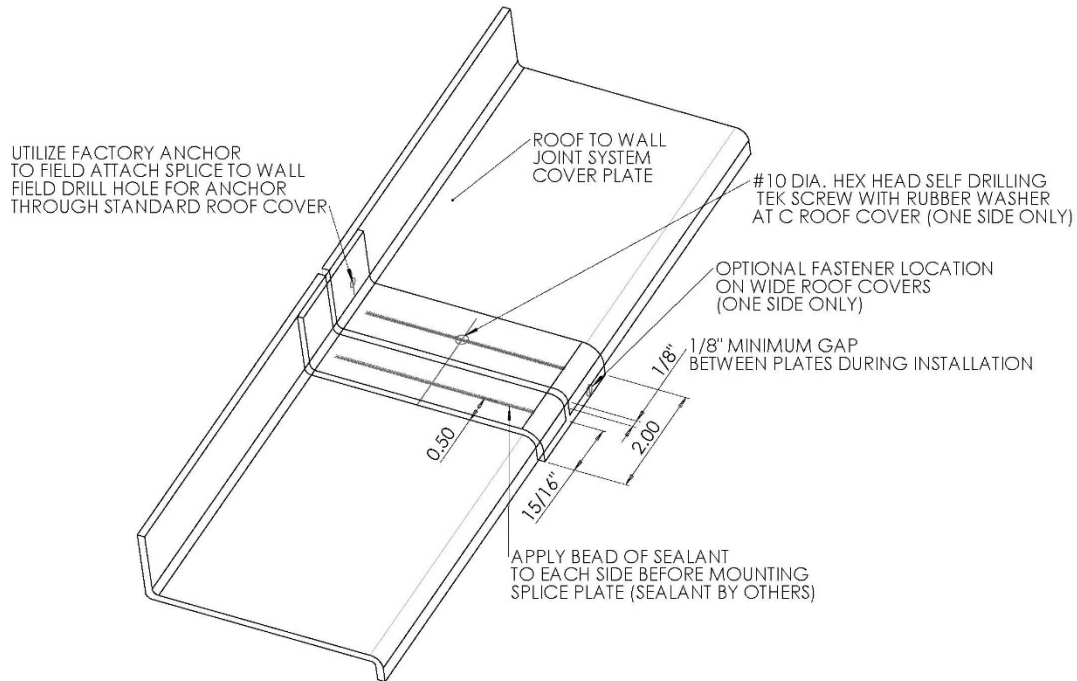

FIGURE 6
6. Install splice plates as needed per **Figure 6**.